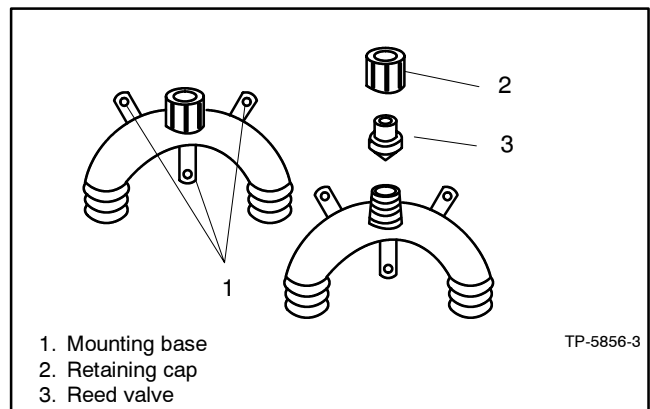

Figure 3-13 Siphon Break
2. Remove the retaining cap and remove the reed valve for inspection. See Figure 3-13.
6. Install the reed valve into the mounting base with the valve downward. See Figure 3-13, item 3.